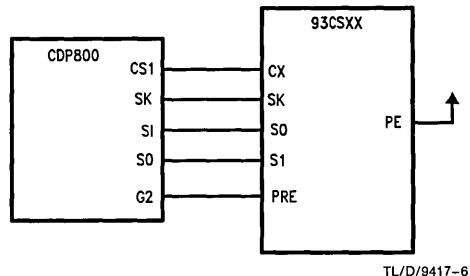

FIGURE 3. MICROWIRE Interface
The MICROWIRE port provides a serial clock (SK), serial input (SI), and serial output (SO). These lines are directly connected to SK, DO and DI of the EEPROM. COP800 parallel port pins can be used for providing CS, PE and PRE. If PE or PRE are static in the application, they can be tied low or high. No other hardware is required for the interface (see *Figure 3*). In a system with multiple devices on the MICROWIRE, additional logic may be required to perform chip selection. If available, parallel port pins could be used for additional chip selects. Otherwise, a PAL device could be designed so that chip selects are set serially preceding any serial device operations.